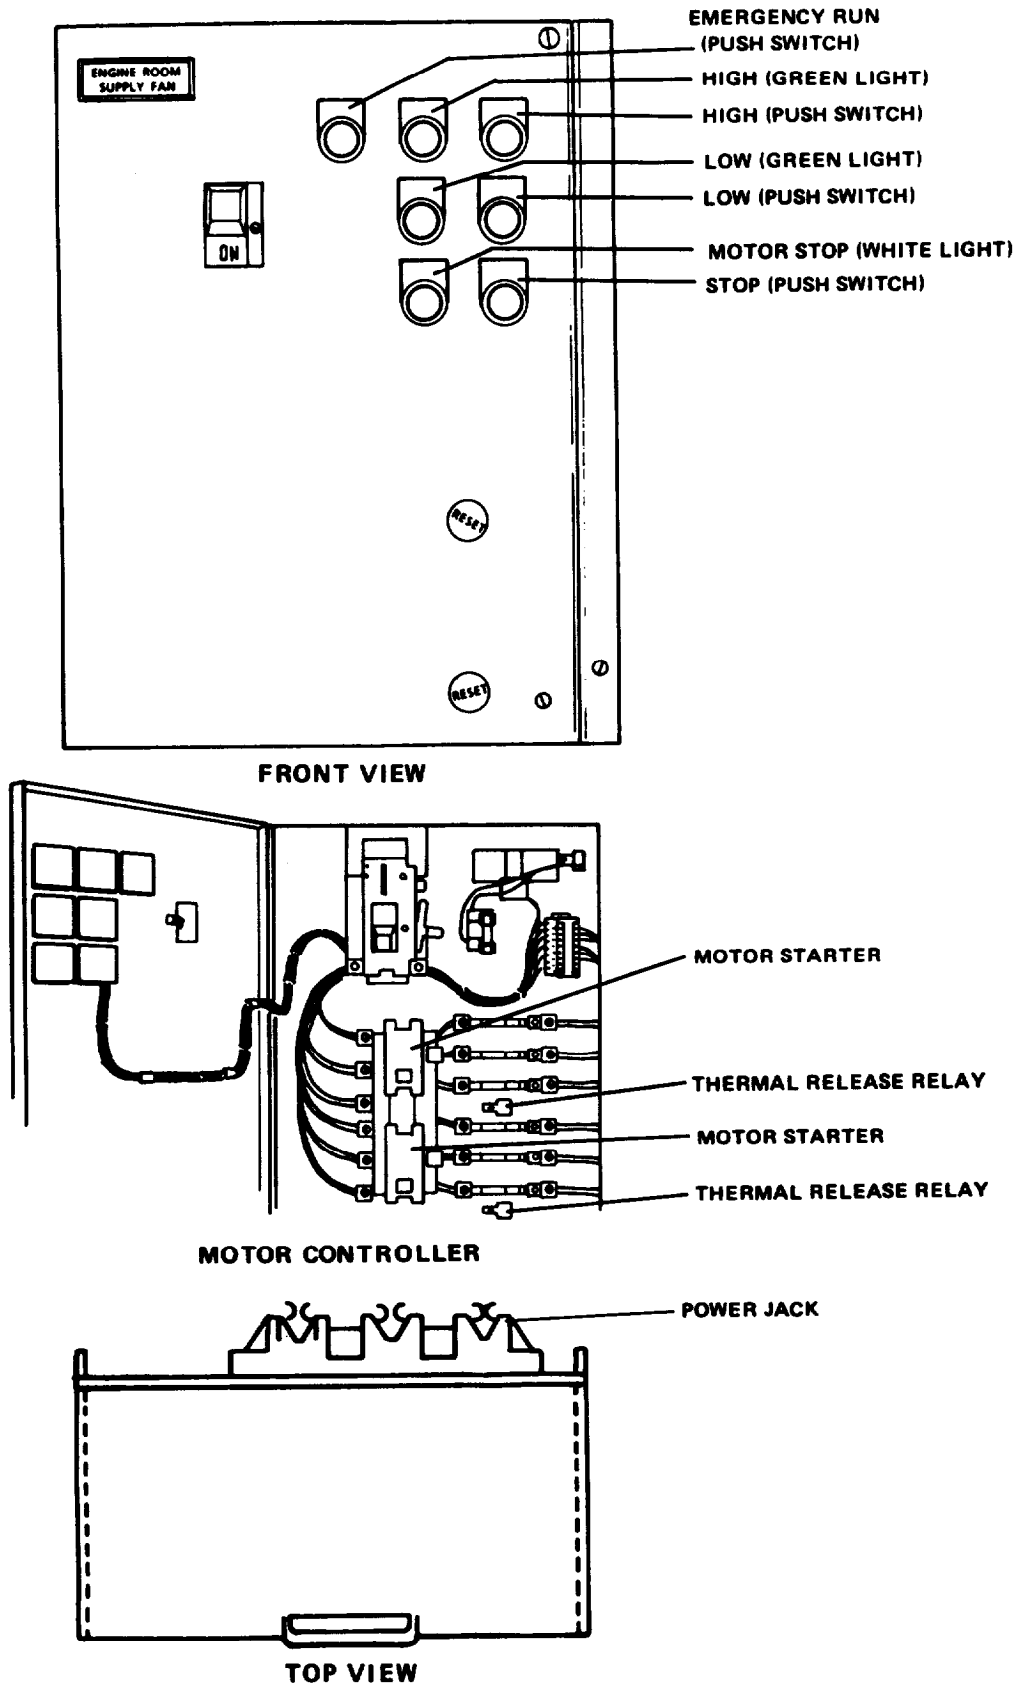

FIGURE 2-200. Motor Controller (Engine Room Supply Fan) Replace.
**2-250. Replace Motor Controller, Engine Room Supply Fan. (FIGURE 2-200)**
Procedures for **REMOVAL** of the Engine Room Supply Fan are basically the same as those described in paragraph 2-222 and illustrated in FIGURE 2-192. For configuration variance of the Engine Room Supply Fan refer to FIGURE 2-200.
Procedures for **REPLACEMENT** of the Engine Room Supply Fan are basically the same as those described in paragraph 2-222 and illustrated in FIGURE 2-192. For configuration variance of the Engine Room Supply Fan refer to FIGURE 2-200.